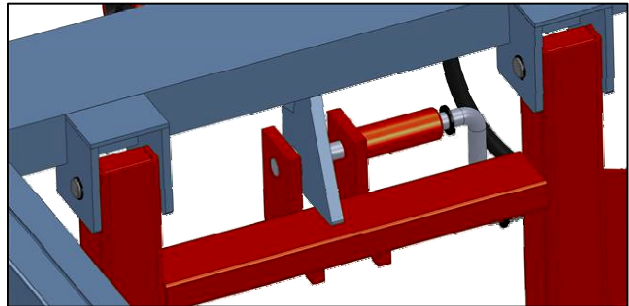

Figure 6.32
4. Lock the movable support with locking bar. See figure 6.32